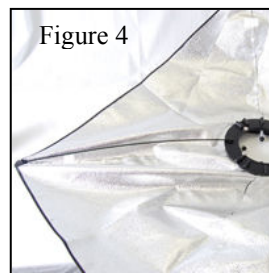

Figure 4
Step 4: Insert the plain end of one flex rod into a slot in the spring ring. Insert the other end (with a silver cap) into the pocket located on one corner of the softbox tent as shown in Figure 4.